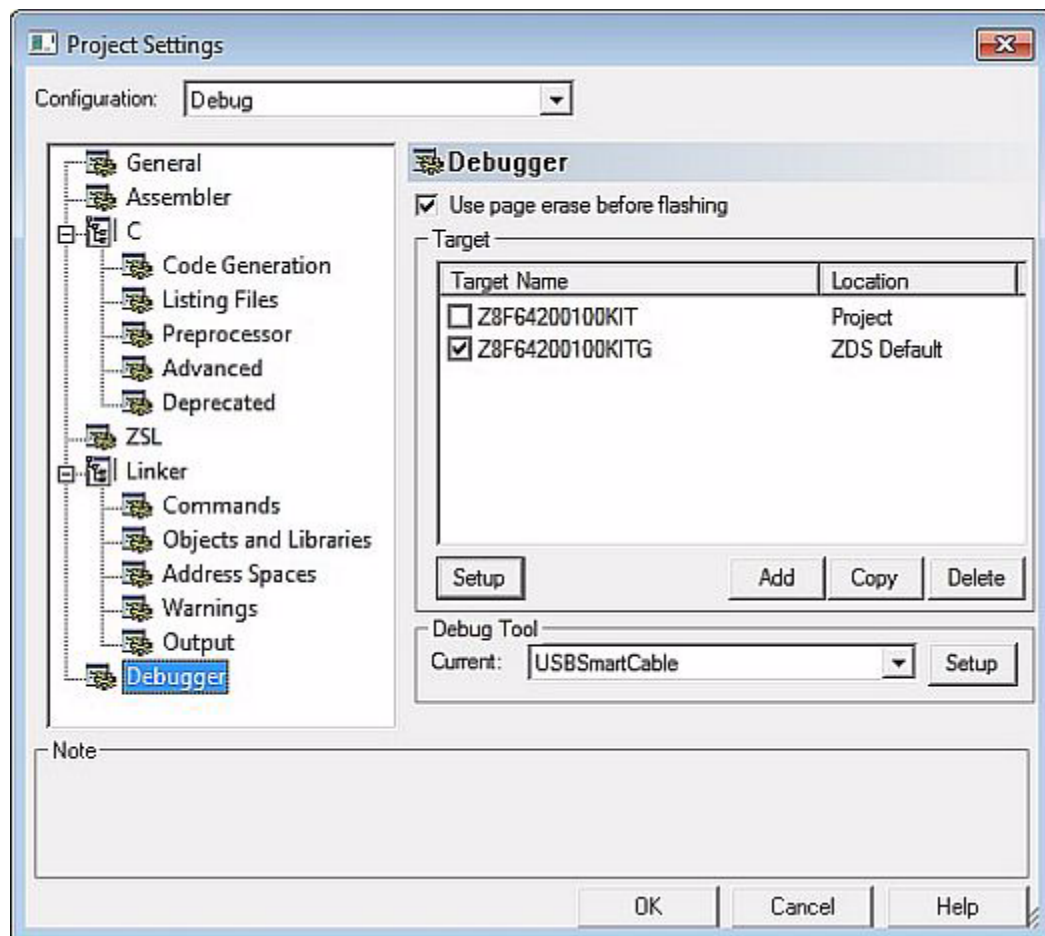

Figure 4. Select Z8F6420100ZCOG and USB SmartCable
- On the Debugger page, select **Z8F64200100KITG** from the Target list, then select **USB SmartCable** from the Debug Tool drop-down menu, as shown in Figure 4.